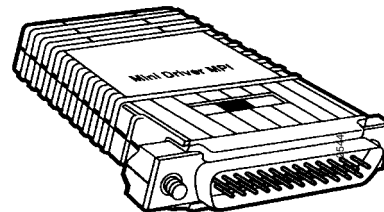

Figure 15-3 RS-232 Short-haul Line Driver
An RS-232 short-haul modem or Line Driver (see Figure 15-3) is needed to boost PC transmission located more than 50 feet from the Strata DK System. A suitable Line Driver is made by Black Box® Corporation at (412) 746-5500, Model ME764A-MSP (male) or ME764A-FSP (female).